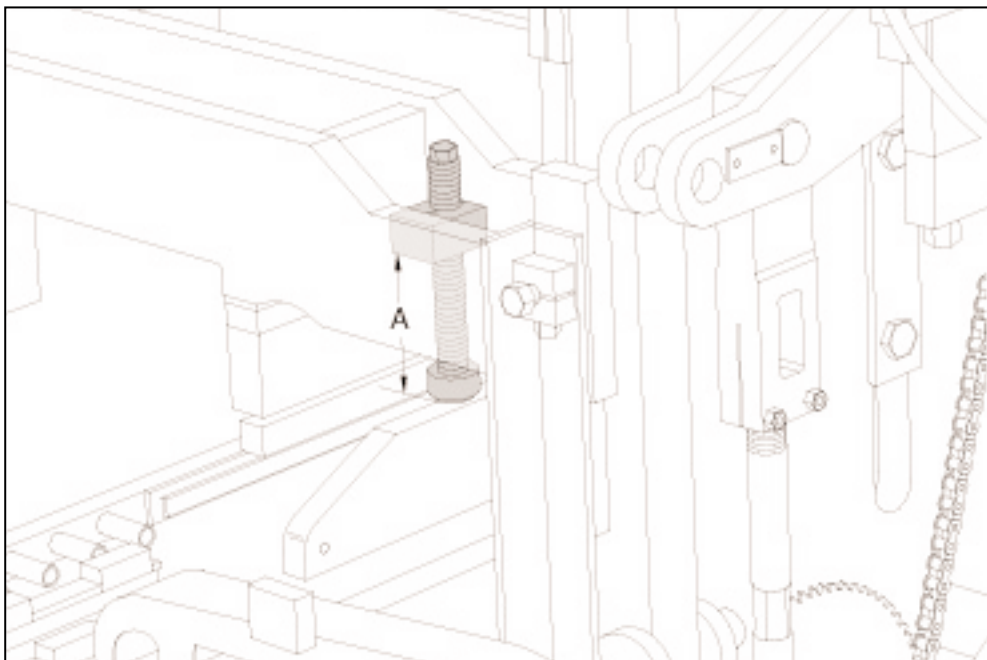

Figure 4.61 INSTALLING SHOCK ABSORBERS AND ADJUSTING.
4.4.7 Install the **445mm [17 1/2"]** shock absorbers (**part #395992**). Adjust the shock absorbers to a dimension of **300mm [11.812"]** (represented by "A" in figure 4.61 from the bottom of the welded clamp block to the bottom of the rubber pad.